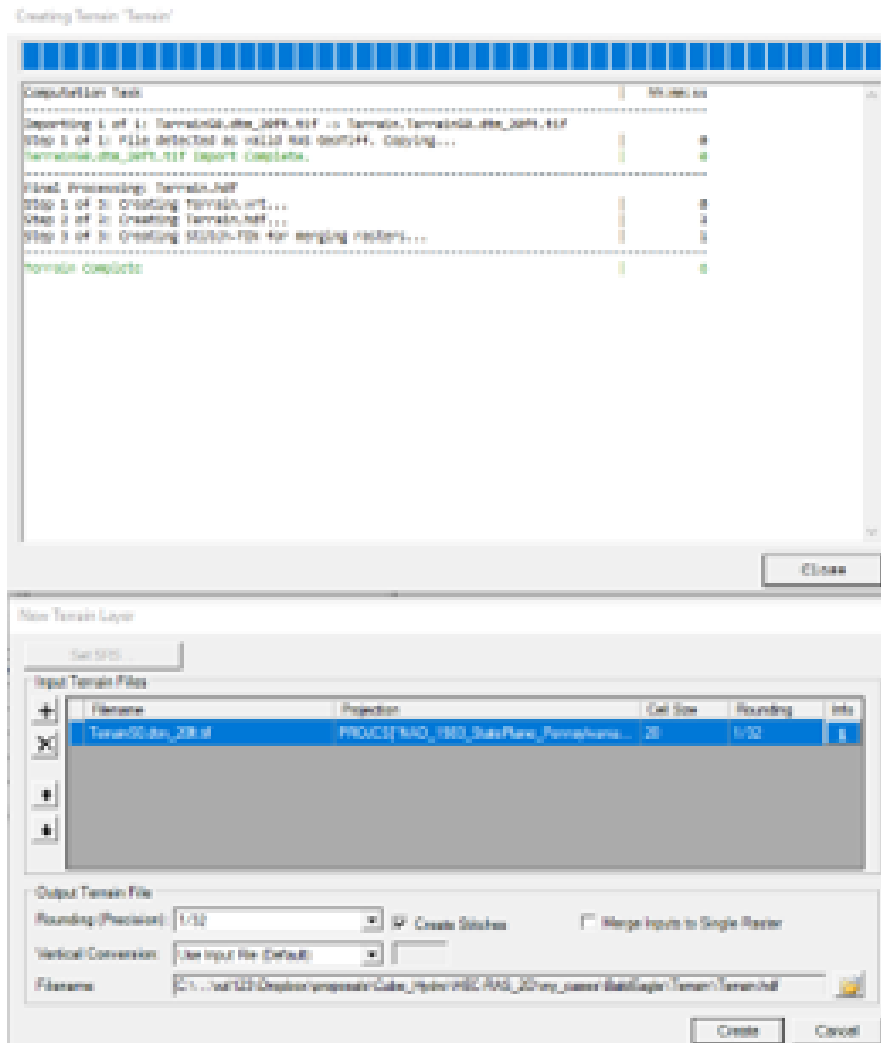

Figure 6.1 Adding terrain in RAS-Mapper
- In this step, the terrain file is loaded and processed (Figure 6.1). It creates Terrain.hdf, Terrain.vrt, Stitch-TIN for merging rasters, and a projection file Projection.prj.